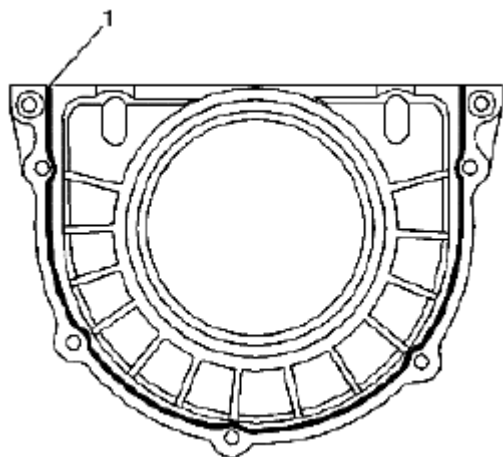

Fig. 736: Placing Bead Of RTV Sealant To Crankshaft Rear Oil Seal Housing
3. Place a 3 mm (0.118 in) bead of RTV sealant, GM P/N 12378521 (Canadian P/N 88901148) or equivalent, to the NEW crankshaft rear oil seal housing as shown in **Fig. 736** (1).